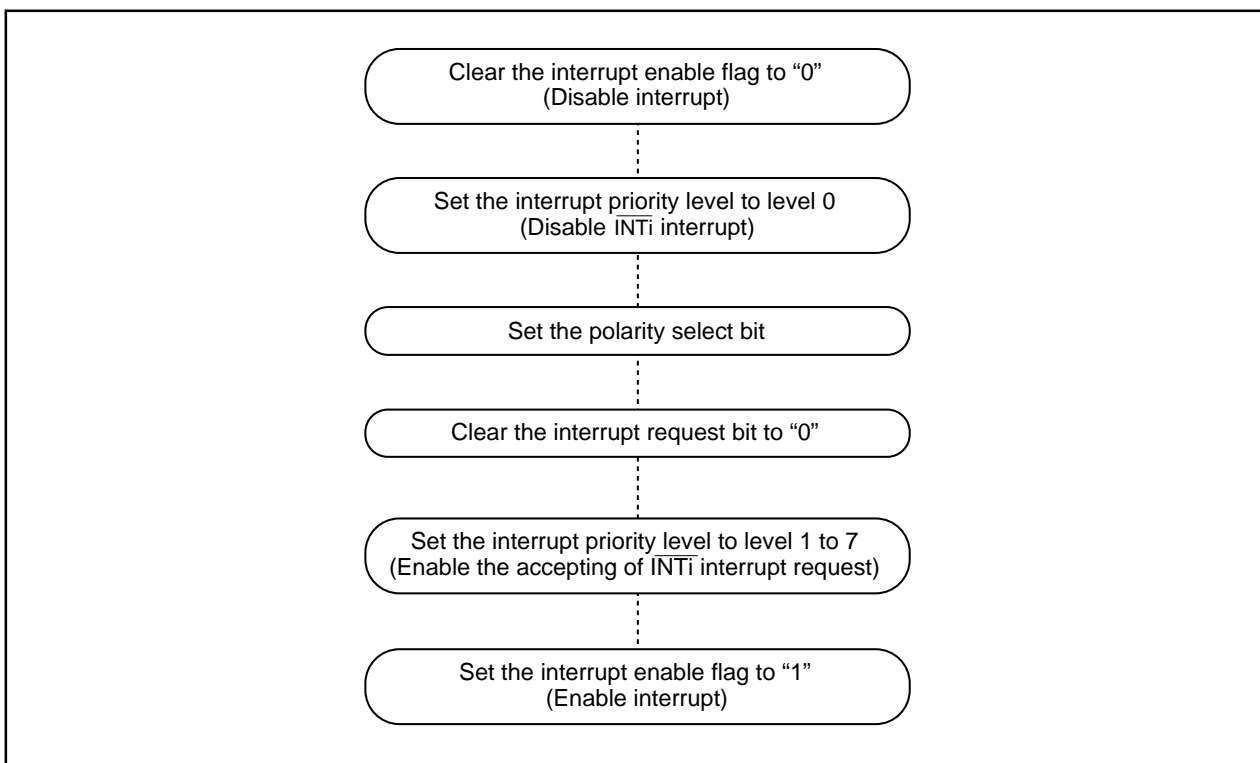

Figure 4.7.1. Switching condition of \overline{INT} interrupt request
(2) Setting the stack pointer
(3) External interrupt
- When the polarity of the \overline{INT}_0 to \overline{INT}_5 pins is changed, the interrupt request bit is sometimes set to "1". After changing the polarity, set the interrupt request bit to "0". Figure 4.7.1 shows the procedure for changing the \overline{INT} interrupt generate factor.